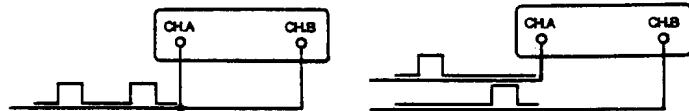

Figure 1
Apply the signal or the two signals (as per Figure 1) to jacks ① "CH.A" and "CH.B". Adjust attenuations, trigger edges and trigger onset as described in section 5.1.1.